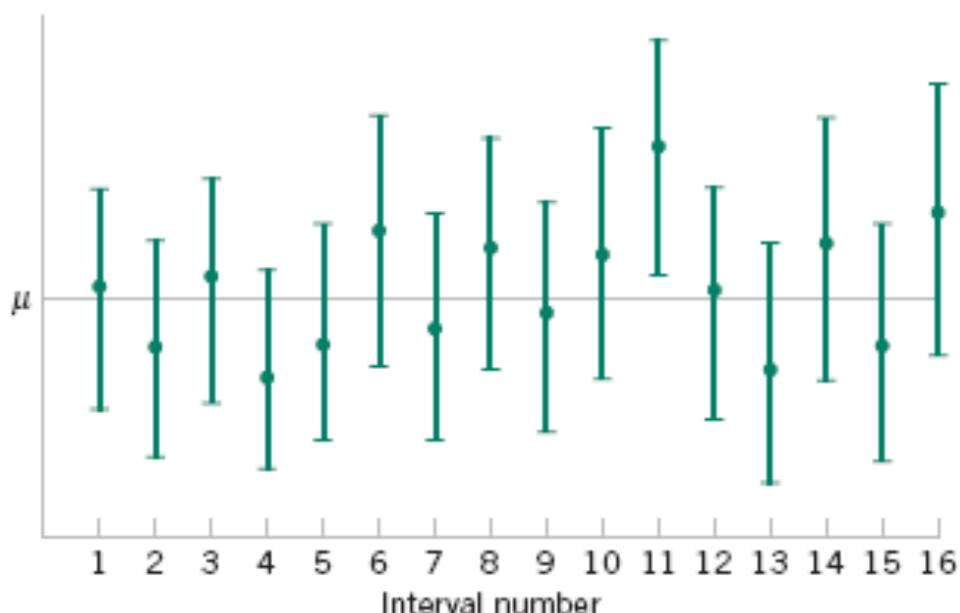

Figure 8-1 Repeated construction of a confidence interval for μ .
- Examine Figure 8-1 on the next slide.